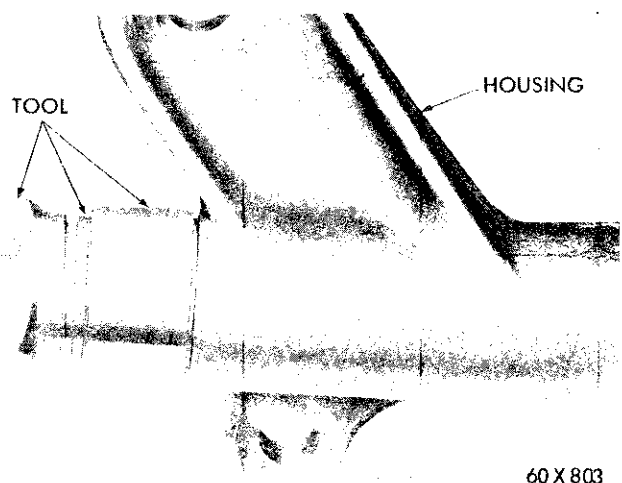

Fig. 8—Installing Gear Shaft Oil Seal
b. Installation (Fig. 8)
- (1) Place the seal on the seal protector sleeve, Tool SP-1601 and install the sleeve over the splines on the gear shaft (lip of seal toward housing).
- (2) Place the adapter, Tool SP-1934, over the protector sleeve and against the seal.
- (3) Thread the tool nut on the threaded end of the gear shaft and turn the tool nut until the shoulder of the adapter tool contacts the housing.
- (4) Install the steering gear arm and nut. Tighten the nuts to 125 foot-pounds torque.